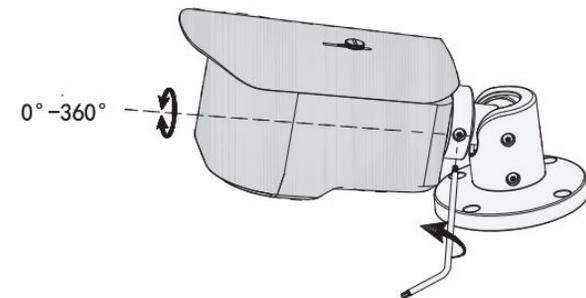

Figure 2-3
**Step 4** To rotate the camera body, loosen the tension screw as shown on Figure 2-3.